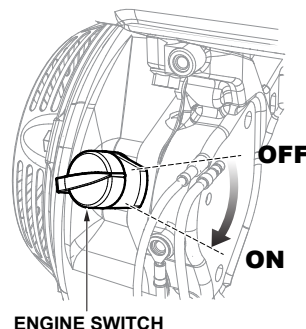

Figure 11. Engine On/Off Switch
4. Turn the engine switch (Figure 11) to the ON position.